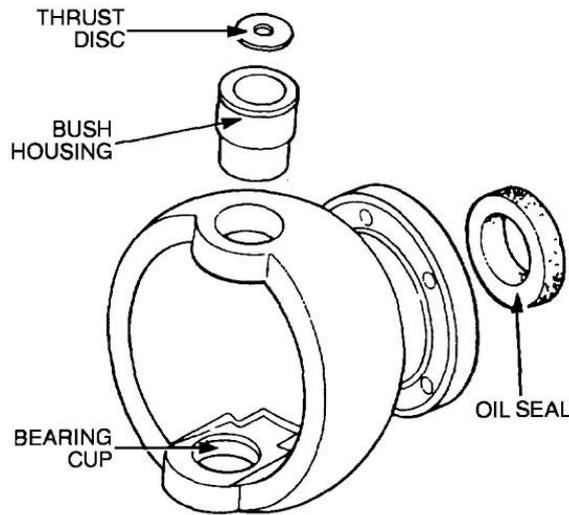

Figure 272 Disassembly of the Bearing Housing
- a. Remove the oil seal from the bearing housing (Figure 272), then using a suitable press, remove the lower bearing cup, and upper bush housing.
- c. Press the oil seal into the bearing housing, plain side first (Figure 272), then smear grease around the seal lip.
- g. Smear the swivel housing oil seal with grease, install the seal and seal retaining plate. Install the six bolts and new lock-washers (Figure 272). Torque the bolts to 7 to 10 N.m (5 to 7 lbf.ft) and check that the seal wipes the spherical surface of the bearing housing.